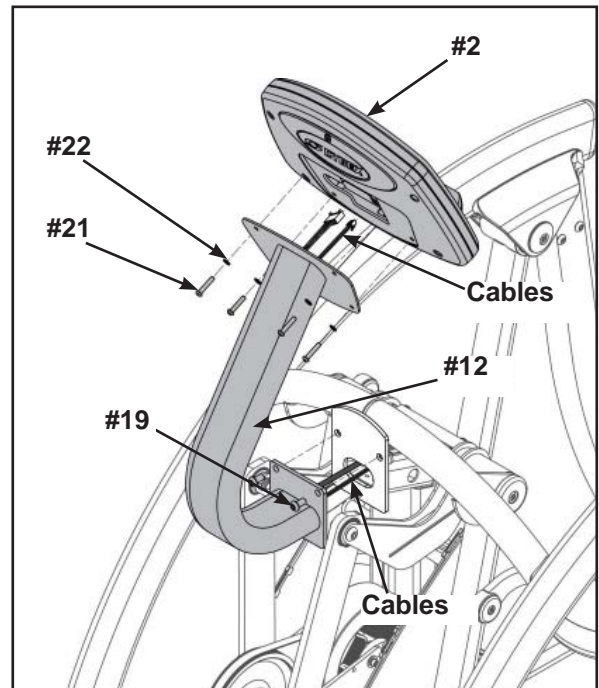

Figure 4
- B. Position the console support bracket (#12) on the main frame assembly and hand thread each of the three BHCS .375-16 X .75. (#19) See Figure 4.
- B. Connect the console and heart rate cables exiting top of the console support bracket (#12) to the console (#2). See Figure 4.
- C. Position console assembly (#2) and hand thread each of the four BHCS .250-20 (#21) with four lock washers (#22). See Figure 4.